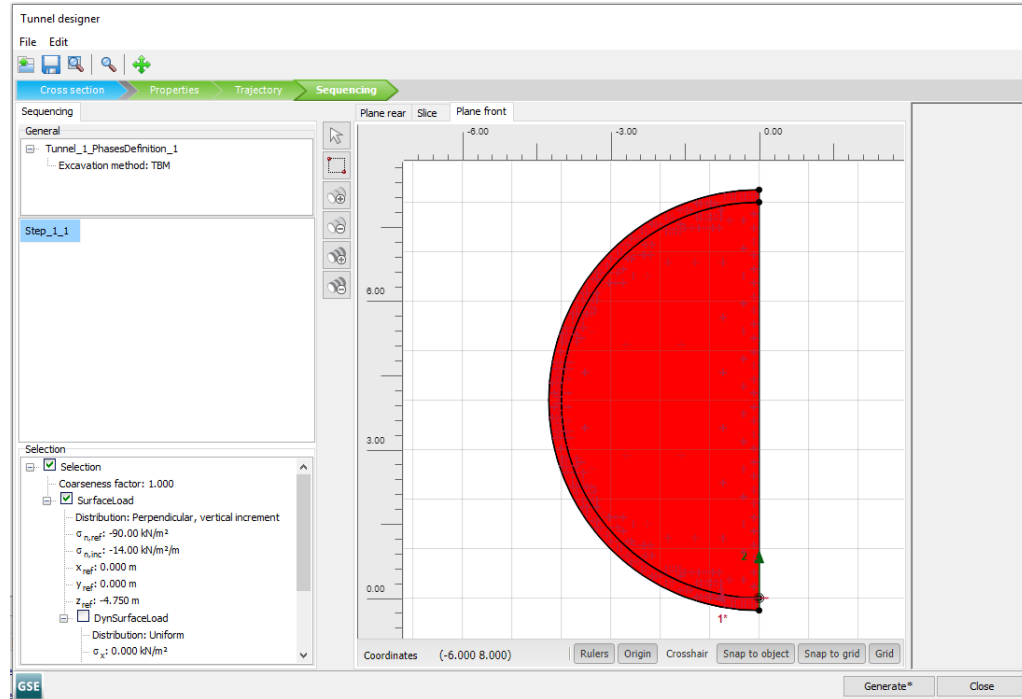

Figure 5-15: Plane front tab Tunnel designer- <Step_1_1> Definition of face pressure
- Click on the **Plane Front** tab and select all the surfaces (front TBM). In the **Selection Explorer**, activate the **Surface load** corresponding to the TBM face pressure (Figure 5-15 \(p. 97\)).